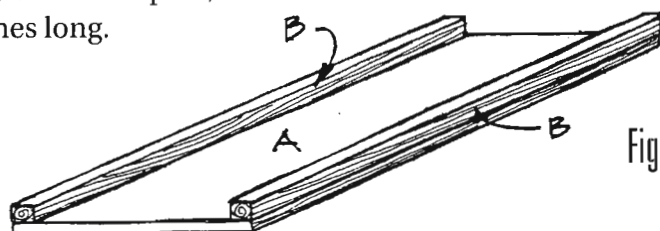
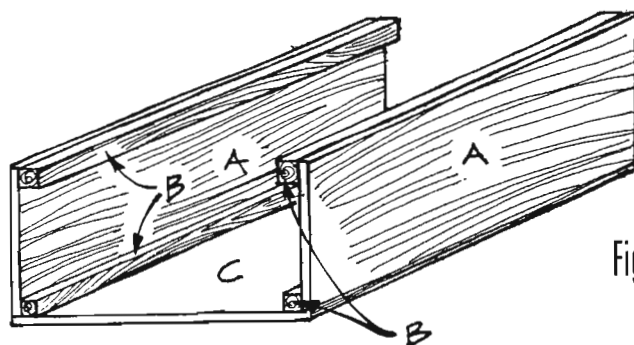

Figure 1
Figure 2
1. Cut two sides (A) from 3/4-inch-thick plywood, each measuring 2 by 6 feet.
2. Cut four inner vertical supports (B) from 2 x 2 pine, each 6 feet long.
3. Attach two supports (B) to one side (A), both flush with the 6-foot edges, as shown in *Figure 1*. Use glue along the entire length, and 2-1/4-inch-long screws approximately every six inches.
4. Repeat step 3 using the remaining side (A) and the two remaining supports (B).
5. Cut one 4-foot by 6-foot back piece (C) from 3/4-inch-thick plywood. Place it on a flat surface and attach the two sides (A) at right angles to the back. Glue and screw the two vertical supports (B) to the back (C) as shown in *Figure 2*. Again, use 2-1/4-inch-long screws about every 6 inches.